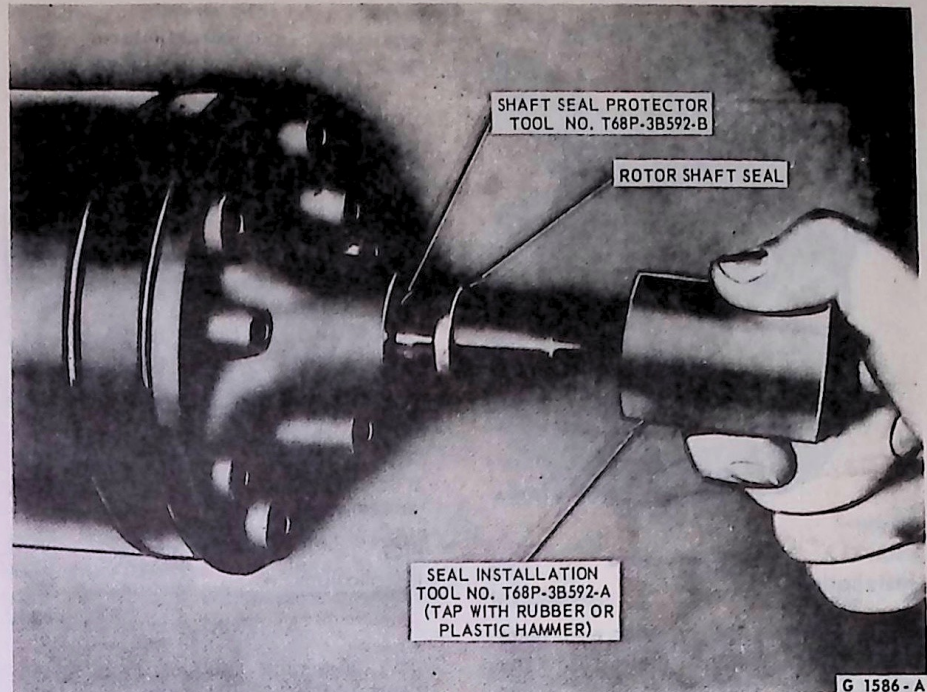

FIG. 11 Rotor Shaft Seal Installation
3. Insert the seal protector tool and the rotor shaft seal onto the shaft (Fig. 11).